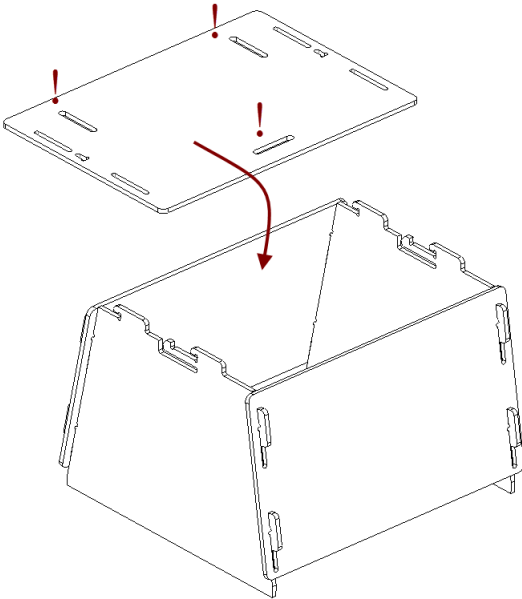

Figure 208: Mounting the cover.
3. Paying attention to orientation of the slots, install the cover using the upper hooks of the side walls (see Figure 208).